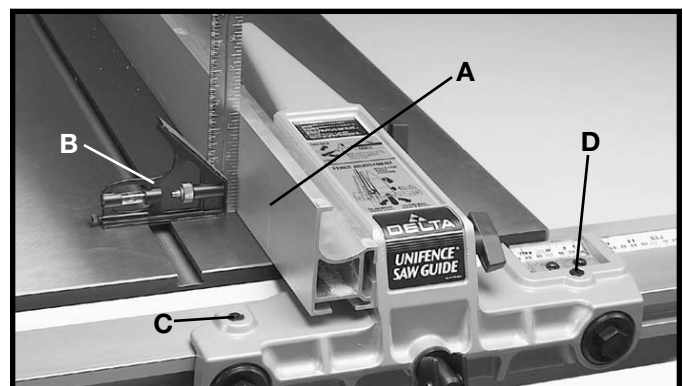

Fig. 79
The fence must be adjusted so that the face of fence (A) Fig. 79, is 90 degrees to the table. To check if the fence is 90 degrees to the table, place a square (B) on the table with one end of the square against the fence, as shown. If an adjustment is necessary, tighten or loosen one of two screws (C) or (D) until the fence is 90 degrees to the table.